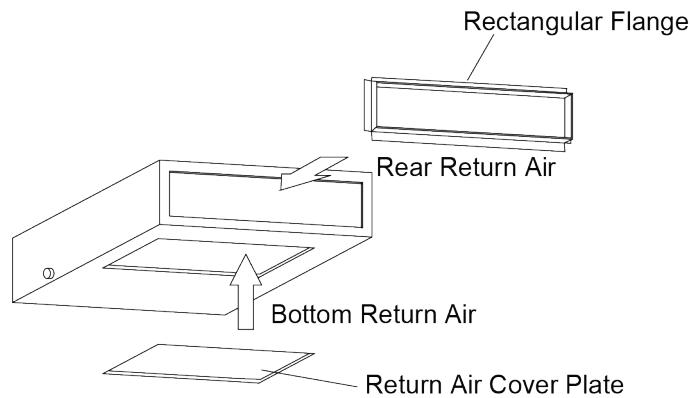

Fig 4.23
- Square flange is defaulted to be fitted on the back before ex-factory. Air-return cover is on the bottom, as shown in Fig 4.23.